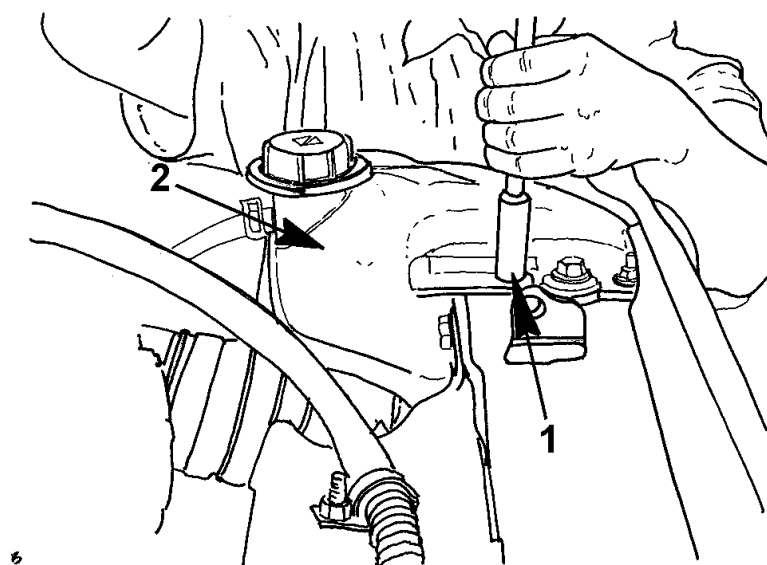

Figure 8 Surge Tank Upper Mounting Bolts
4. Loosen and remove the upper surge tank mounting bolts from the radiator top frame (Item 1, Figure 8).